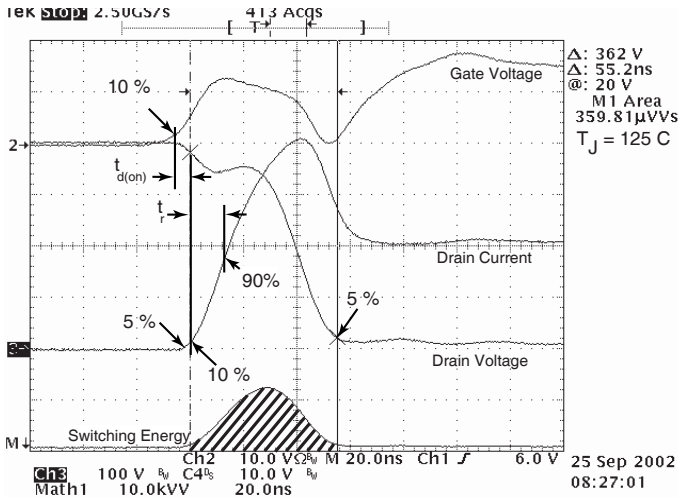

Figure 18, Turn-on Switching Waveforms and Definitions
① Repetitive Rating: Pulse width limited by maximum junction temperature
② Pulse Test: Pulse width < 380  $\mu s$ , Duty Cycle < 2%
③ See MIL-STD-750 Method 3471
④ Starting  $T_j = +25^\circ C$ ,  $L = 5.49mH$ ,  $R_G = 25\Omega$ , Peak  $I_L = 21A$
⑤  $dv/dt$  numbers reflect the limitations of the test circuit rather than the device itself.  $I_S \leq -I_D 21A$   $di/dt \leq 700A/\mu s$   $v_R \leq v_{DSS}$   $T_j \leq 150^\circ C$
⑥  $E_{on}$  includes diode reverse recovery. See figures 18, 20.